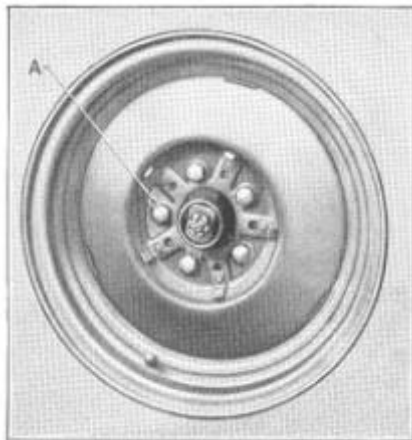

Figure 29A
All wheels are demountable at the hub by prying off the outside hub cap and removing the cap screws (A), Figure 29A, in the wheel mounting plate. When replacing the cap screws, the final tightening locks them to prevent loosening in operation. *Be sure the cap screws are drawn down tightly.*